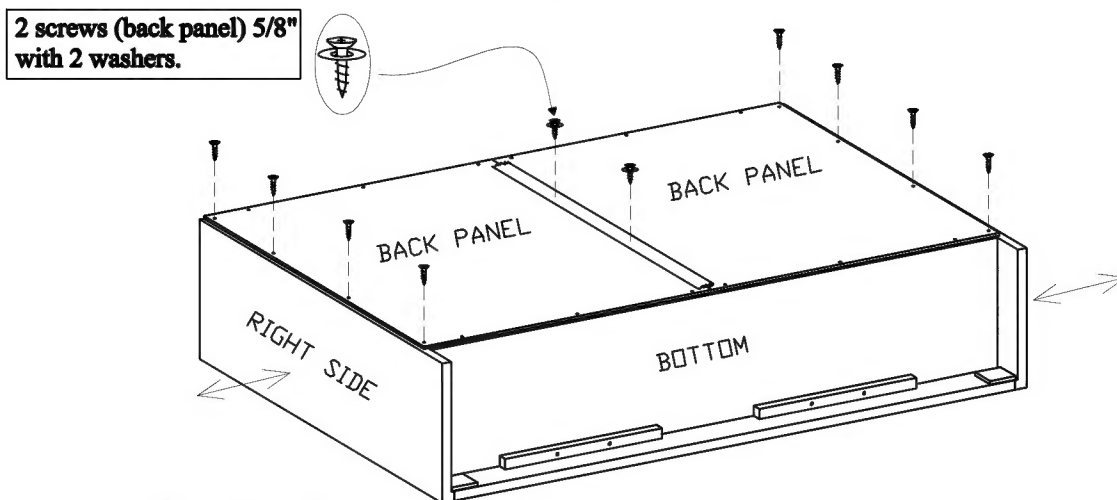

Figure 7
Step 26. The edges of the SIDE PANELS must be parallel with the edges of the BACK PANEL. If necessary, slightly push the SIDE PANELS in or out, in order to ensure an equal amount of space along the edges. See Figure 7.
Step 27. Insert and screw 4 screws along each side edge of the BACK PANEL. See Figure 7.
Step 28. Insert and screw 2 screws with washers along the tape. See Figure 7.